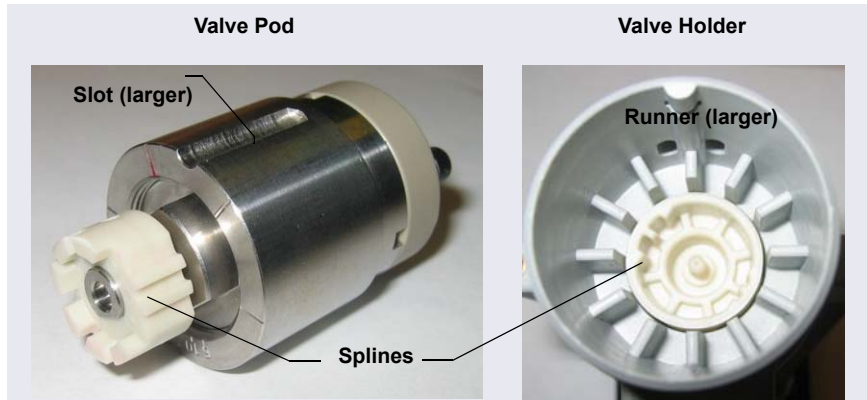

Figure 9-78. Injection Valve Pod and Pod Holder
7. Align the slots in the new pod with the runner in the valve holder in the TC (see Figure 9-78). Valve pods are keyed to fit only one way (one slot is narrower than the other). Verify that the slots are aligned with their matching runners.
8. Also verify that the two splines on the pod align with the matching splines inside the valve holder (see Figure 9-78). If necessary, twist the end of the pod to adjust the position of the splines.